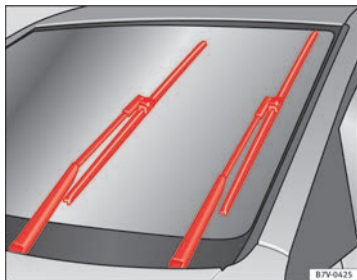

Fig. 128 Windscreen wipers in service position
- Turn ignition on and off and then (before approx. 9 sec.) move the windscreen wiper lever to the intermittent wipe position. The windscreen wipers will move to the service position ⇒ fig. 128.